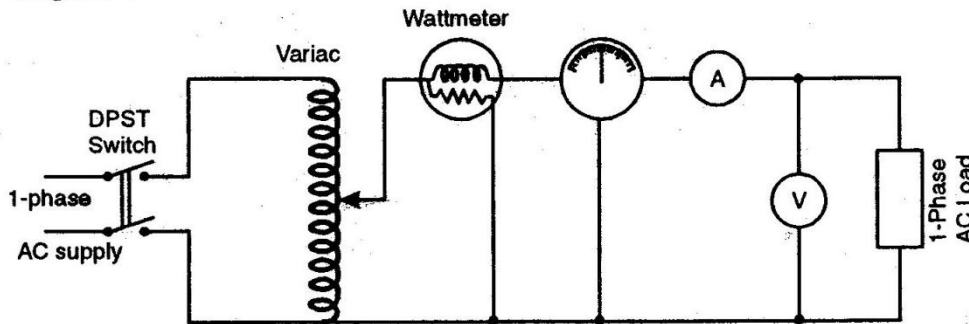

Fig. 7
1. Make the connections as shown in fig. 7.